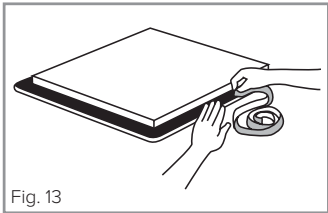

Fig. 13
3. Position the hob seal, as shown in the diagram below (Fig. 13), ensuring that the ends meet without overlapping. Do not use silicone type sealant.